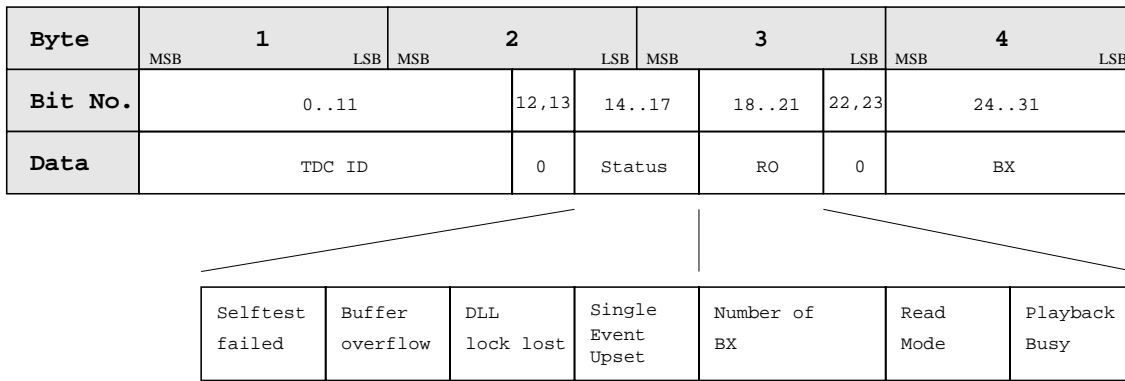

Figure 5: Header data format of *OTIS 1.0* in normal operation mode
On *OTIS 1.1* the addresses of some configuration registers were changed according to table 7. Furthermore the following additional registers were newly introduced or modified: The chip-ID was increased to 12 bits and is now readable via the PosID0, PosID1 registers. The I2C address has been separated from the chip-ID and made accessible via the I2CID register. The Revision register (3) gives access to the chip version used. The event counter (c.f. figs. 5 and 6) already present on *OTIS 1.0* can now be read via the EventID register (7). The total number of received triggers can be read from the ReceivedT register (5), while the RejectedT (6) contains number of rejected triggers due to an already full derandomiser buffer. Thus it holds true that  $\text{EventID} + \text{RejectedT} = \text{ReceivedT}$  if there is no pending readout (i.e.
To select normal (or **single hit**) operation mode, the content of the **ReadMode** register must be set to **8'bXXXX00xx**. The upper 4 bits have no function *OTIS 1.0* . On *OTIS 1.1* only bit number 7 is not used: Bit no. 4 turns on the transmission of a *Comma* (i.e. a byte set to **8'b11111111**) immediately preceding a non-consecutive readout data frame. Bit no. 5 activates the **dataValid** output pad and bit no. 6 the transmission of the previous drift time in the lower 6 bits of an unhit channel. On both, *OTIS 1.0* and *OTIS 1.1* , bits number 0 and 1 are used to program the number of data sets to search for hits. Bit number 2 selects **single hit** operation mode. For **suppress zero** mode this bit must be set to 1, but this mode is not implemented on *OTIS 1.0* and *OTIS 1.1* . For the latter mode the content of bit number 3 turns data stream truncation on or off. Figure 4 depicts how data and drift times are formatted in **single hit** operation mode. Figures 5 (*OTIS 1.0* ) and 6 (*OTIS 1.1* ) show how the status and hit information is organised in the header which precedes every output data frame.